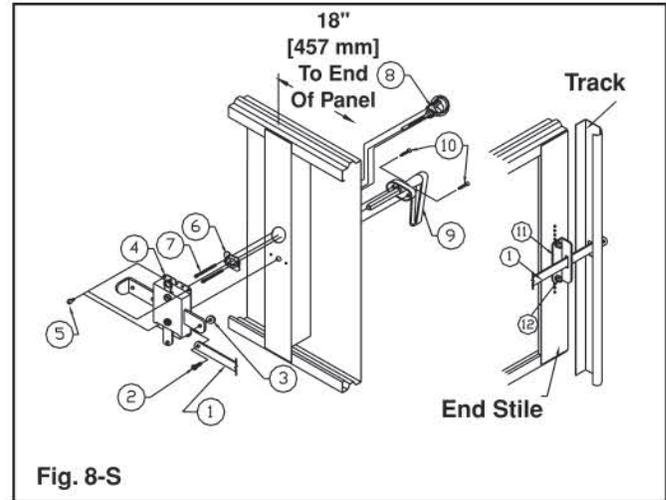

Fig. 8-S
Step 1: Bottom Section. Find bottom section (the one with bottom weatherseal), then lay it on saw horses. Find bottom bracket in hardware carton. Several different types are used depending on door thickness, door weight, and track size. Find the type of bottom bracket supplied in one of the pictures shown in Figure 1-S and fasten bottom bracket using the red-colored fasteners shown. (Low headroom doors refer to Figure 8-T, page 23.)
- Side Lock (FIG. 8-S)
2. Finally, attach the lock bar (11) using 1¹/₄" - 20 x 1" [6 mm x 25 mm] hex head screw and nut (10 & 12), and lock bar guide (14) using #14 x 5/8" [6 mm x 16 mm] sheet metal screw. When track is permanently in place, adjust the lock bar guide so lock bar rests against the top of one of the engaging slots in the track. Details are shown in Figure 8-S.
Lower door and push track towards jambs until door is tight against stop or steel jambs and tighten track bolts. Adjust top brackets. (Figure 10-S, page 12) Install inside side slide lock or lock bar (Figure 8-S & 9-S, page 12) after spring is wound. Nail door stop in place if applicable.